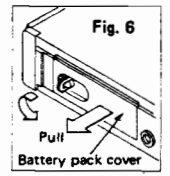

Fig. 6
- Note:** Before performing this procedure, remove the battery pack cover and battery pack as shown in Fig. 6.
1. Remove the 2 flat cables from the 2 connectors (① and ②).
2. Unscrew the 2 screws (③ , ④).
3. Unscrew the 6 screws (⑤ ~ ⑩).
4. Release the connector (⑪) and remove the mechanical main unit.